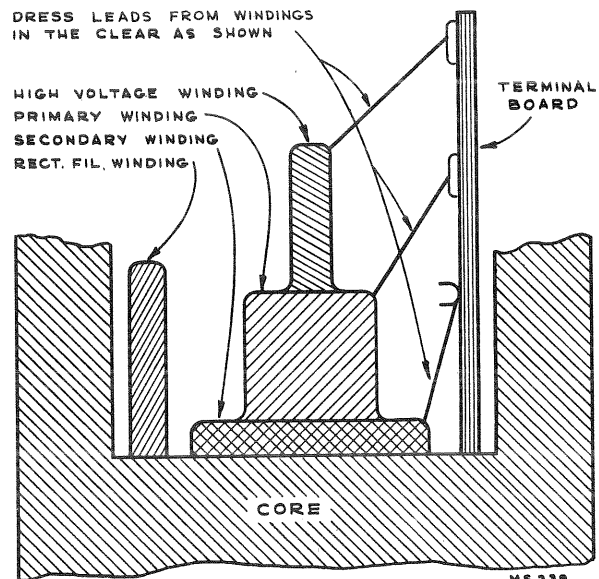

Figure 12—T110 Lead Dress
15. Dress T110 winding leads as shown in Figure 12.